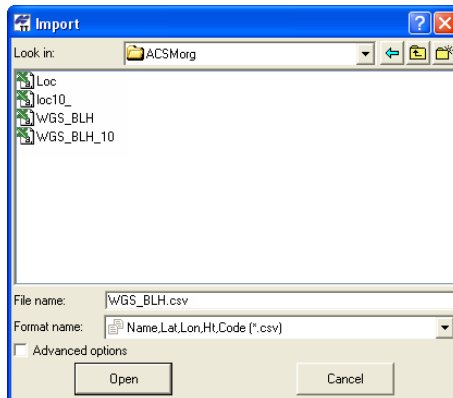

Figure 6-37. Import Coordinate File
1. To import a control file, click **File ► Import**. Navigate to and select the desired WGS84 coordinate file, then click **Open** (Figure 6-37).